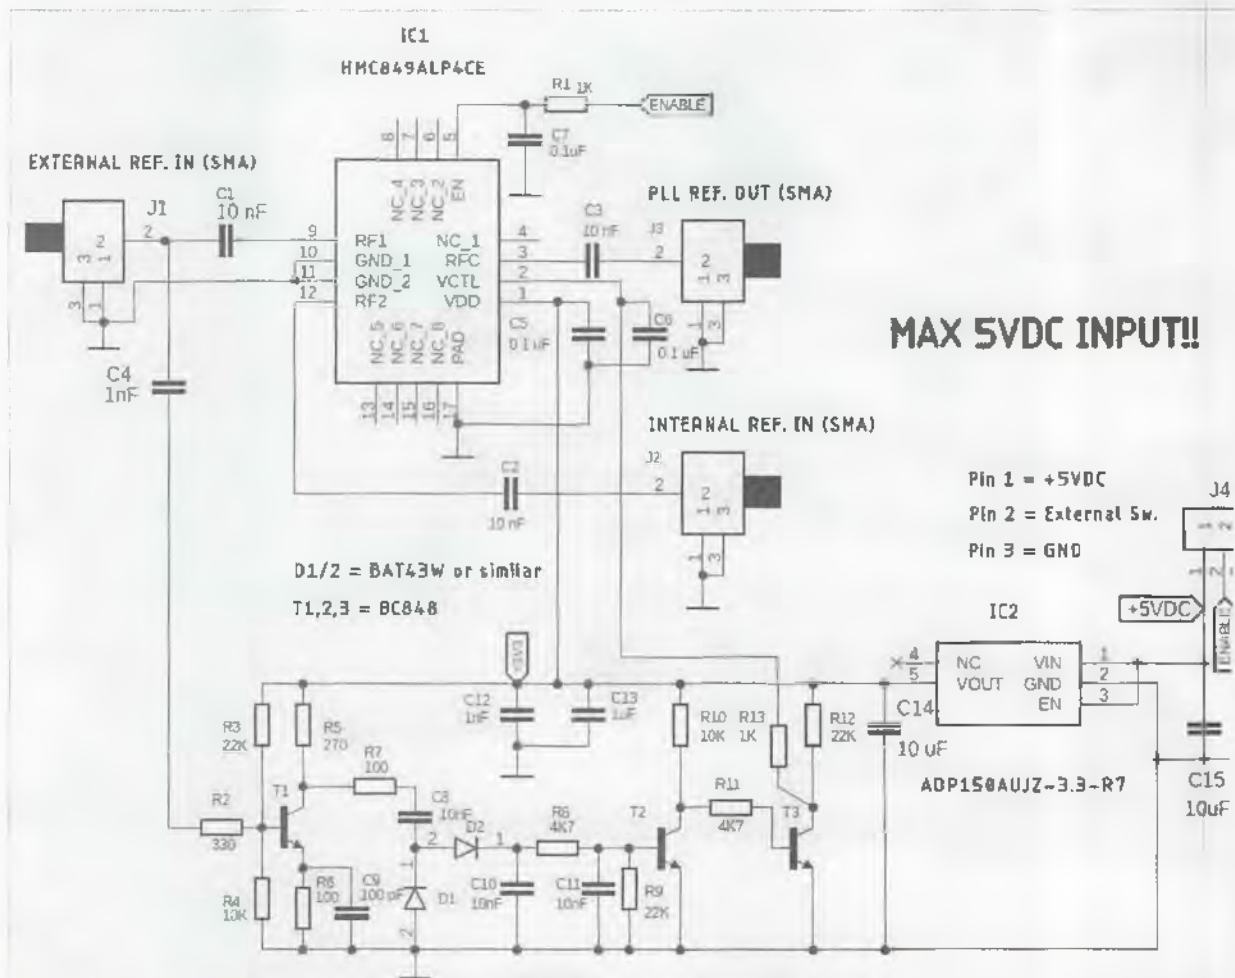
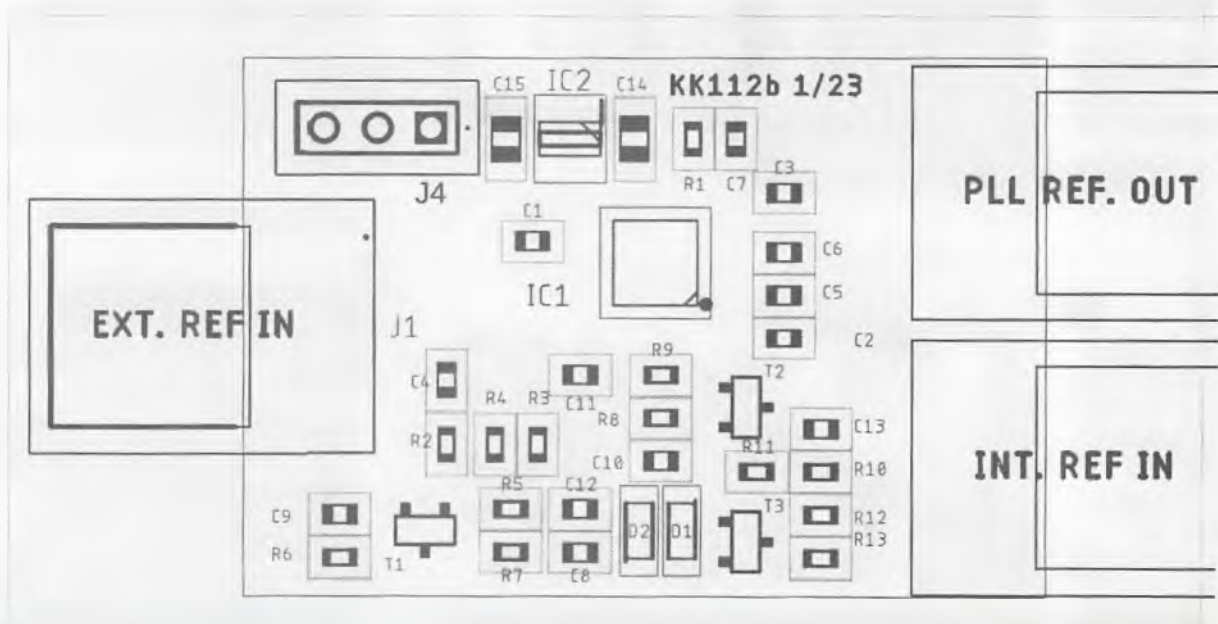

Figure 3. Schematic of the PLL reference switch.
Figure 4. PLL reference switch PCB layout (top side - single-sided board).
**Figure 4.** Top-side view of my 75S-3. Note the 240-110 VAC transformer at top right. Immediately below it is the new 3 x 40 uF capacitor can adjacent to the audio output tube, now using a 6AQ5.
A new PCB has been created (KK112b); Figure 3 shows the schematic and Figure 4 the top-side layout (only one side is used).